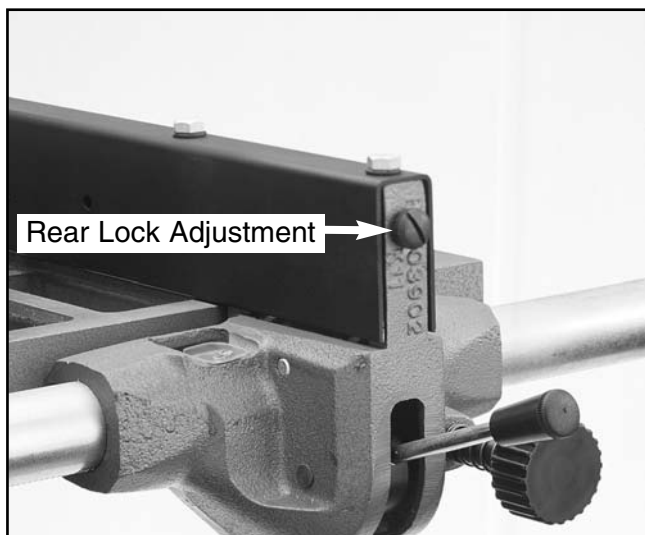

Figure 26. Rear lock adjustment screw.
7. Loosen the rear lock adjustment, the slotted screw on the front of the fence shown in **Figure 26**, until the rear locking clamp ceases to engage the rear rail with the fence in the locked position.